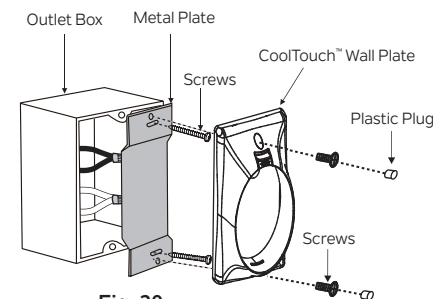

Fig. 29
Step 4. Install the metal plate and the CoolTouch™ wall plate to the existing wall outlet box with the screws provided. Insert the two plastic plugs into the wall plate. (Fig. 29)